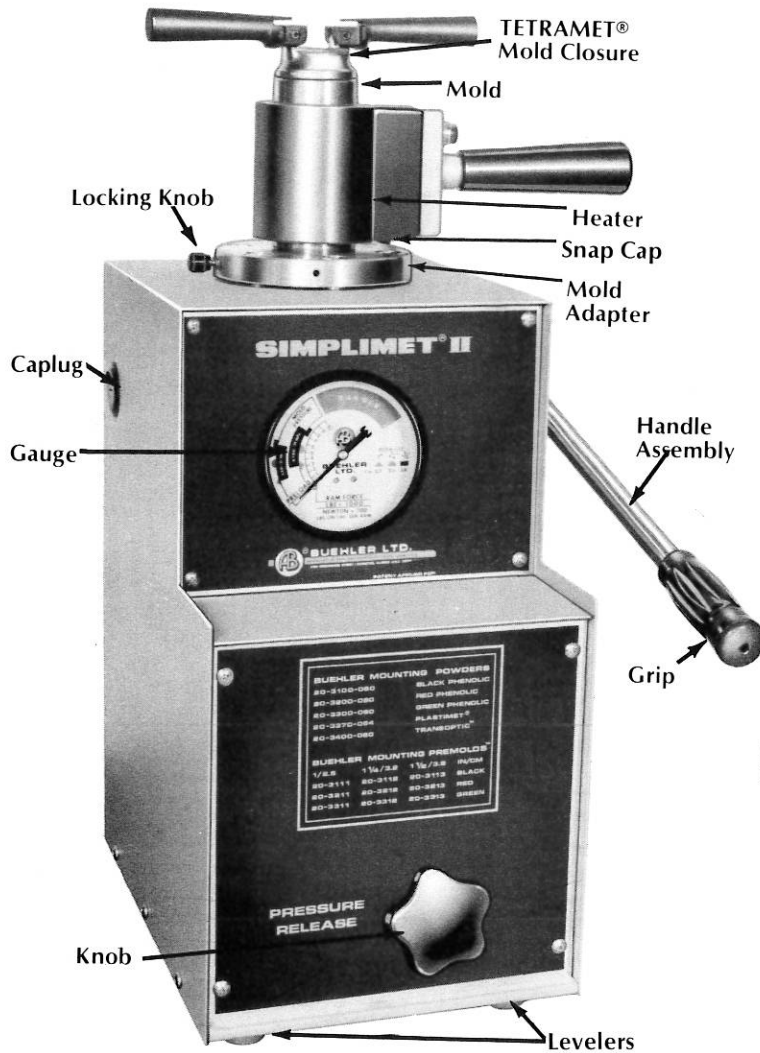

Figure 1. 20-1320 SIMPLIMET® II PRESS
The SIMPLIMET® II Press is shipped assembled except for the Automatic Heater, TETRAMET®\* Mold Closure and Cooler (not shown), Handle Assembly, and Levelers. (Figure 1). Also included with each Press are a pair of 20-3040 Gloves, a tube of PREMOLDST™, samples of Phenolic and PLASTIMET® powders, a 6 ounce container of 20-3046 Silicone Mold Release, a scoop and a scraping tool. The 20-2104 Mold Assembly for preparing 1" (2.5 cm) mounts, the 20-2105 Mold Assembly for 1 1/4" (3.2 cm) mounts, and the 20-2109 Mold Assembly for 1 1/2" (3.8 cm) mounts must be ordered separately and will be packed separately.
2. Release pressure on the Jack by turning Knob counterclockwise (Figure 1) and remove TETRAMET® Mold Closure.
8. Release set screw and remove Pressure Release Knob. Remove four (4) front panel screws and front panel (Figure 1).